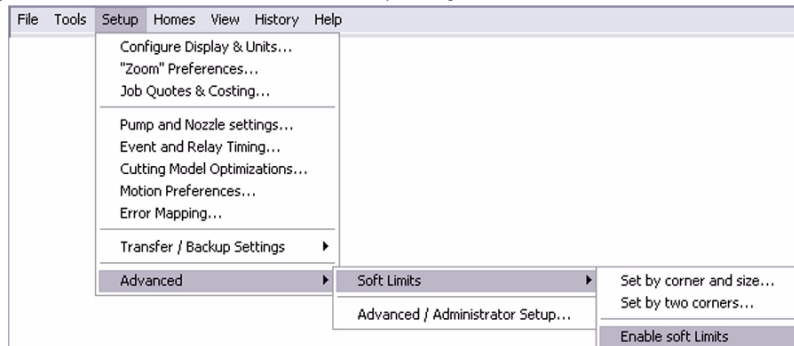

Figure 4-18: Use Setup to Enable the Soft Limits
16. Verify that the soft limits are enabled (**Setup/Advanced/Soft Limits** - see Figure 4-18):